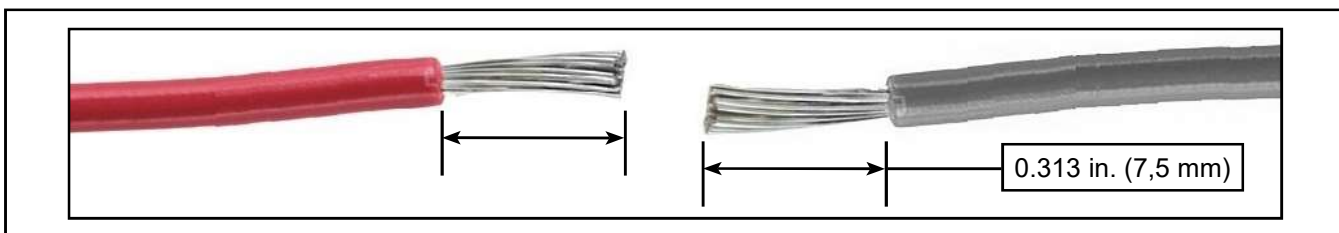

Figure 13 - Wires Insulation Removed
- 2.1.5. Prepare grey and harness wires by stripping 0.313 in. (7,5 mm) of insulation at each wire end (see Figure 13).